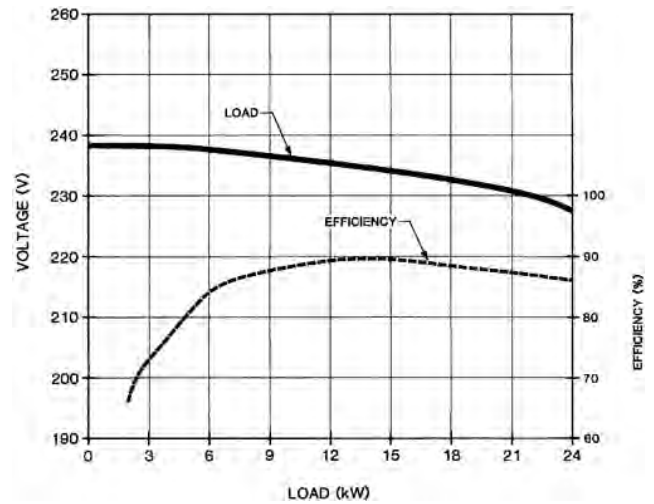

FIGURE 2. Performance Characteristics.
**Performance characteristics:** Alternator performance characteristics for various resistive loads are shown in FIGURE 2.
Efficiency of the alternator, as shown in FIGURE 2, varied from 66 to 90%. Peak efficiency of 90% occurred at a load of 13.3 kW.